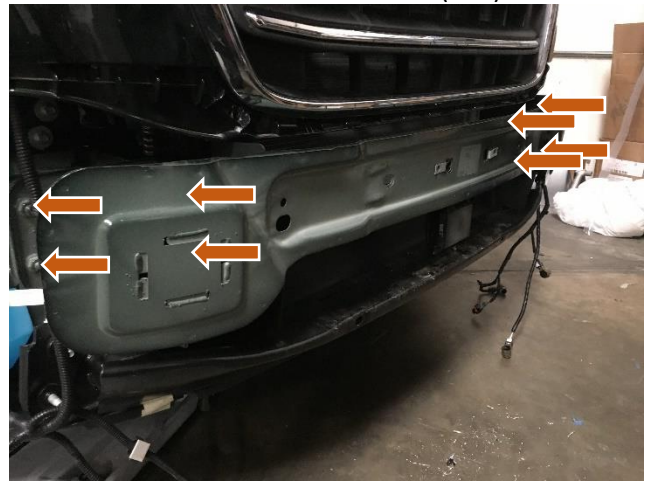

Figure 21: Factory Bumper Removal
18. Remove the eight (8) 13mm bolts from the backside of the steel bumper (Figure 21).